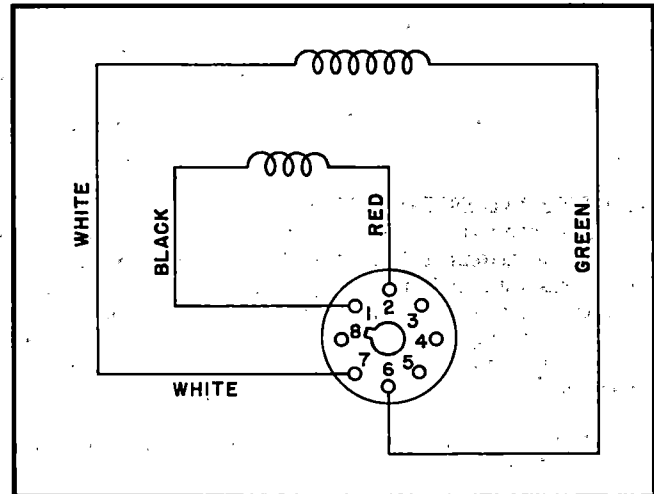

Figure 36. Synchronous Motor Wiring Diagram
b. Assemble shield (24) and mounting plate (23) to motor (25), installing screws (20), lock washers (21) and plain washers (22).
c. Install adapter plate (18) with screws (15 and 17), lock washers (16) and spacers (19).
d. Install mounting bracket assembly (11) with the attaching parts (5 through 10). Note that the free end of grounding strap (14) is held by one of the flat head screws (10).
e. Fill gear housing (4) with seven grams of grease, or until gear housing is filled to approximately one-third its depth. Install gear housing assembly to adapter plate (18) with screws (1), lock washers (2) and the upper screw spacer (3). It may be necessary to rotate the gear housing shaft until gears (4F and 25B) engage, thus permitting housing to seat fully.
f. Install capacitor (30) to bottom of projector case with attaching parts (26 through 29). Check synchronous motor wiring diagram (figure 36) and projector schematic wiring diagram (figure 29) for all wiring connections.